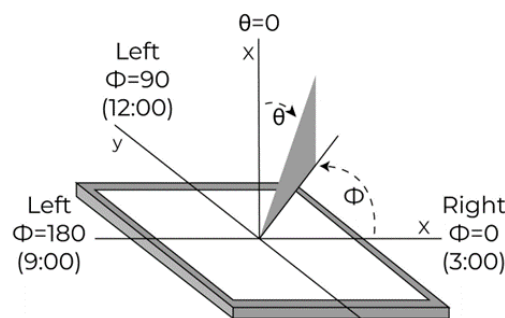

Figure 3. The definition of viewing angle
| Viewing Angle Range        | $\theta$          | $\varnothing = 90^\circ$                              | -     | 80    | -     | deg               | FIG 3. | 6    |
**Note 6.** For TFT module the contrast ratio is greater than 10. The angles are determined for the horizontal or x axis and the vertical or y axis with respect to the z axis which is normal to LCD surface. For more information see Figure 3.